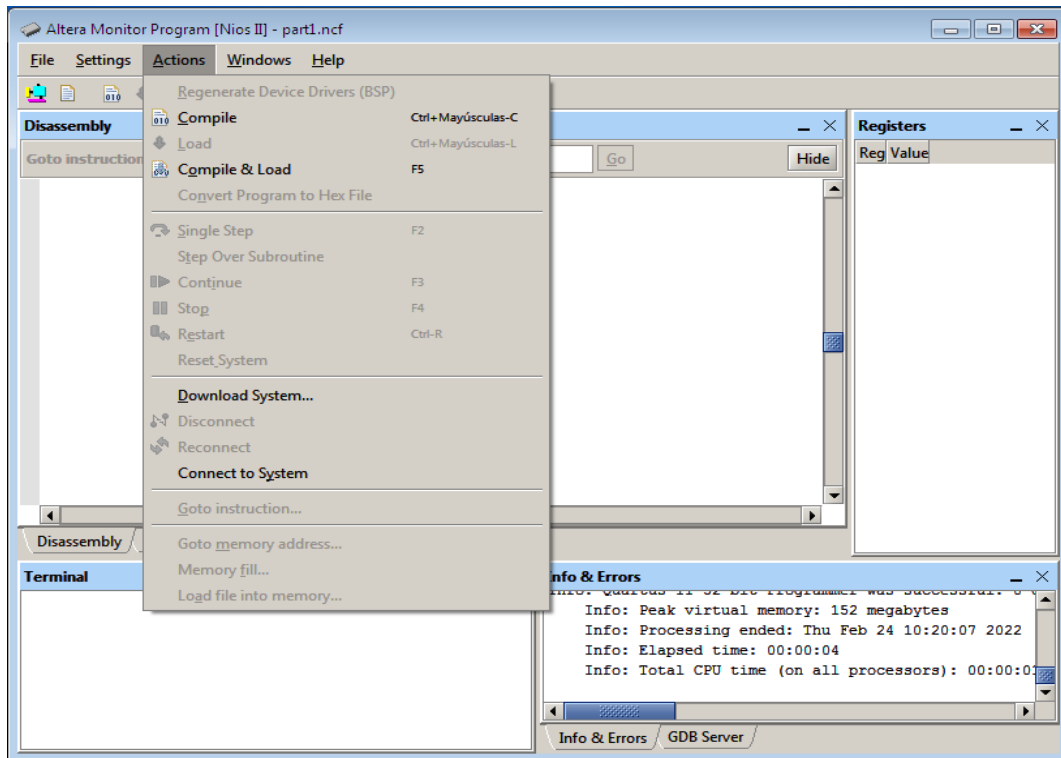
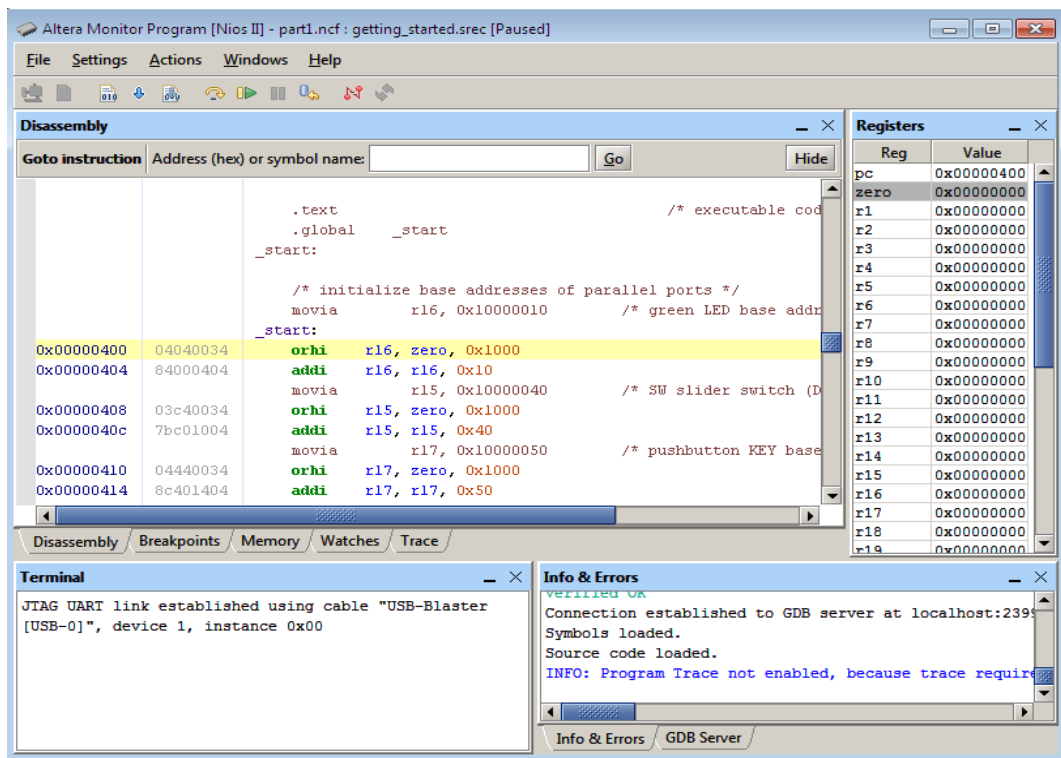

Figure 8: Specify an action in the monitor window.
Figure 9: The monitor window showing the loaded sample program. Instruction set architecture registers window is on the right side.
9. Having downloaded the DE0-Nano Basic Computer into the FPGA chip on the DE0-Nano board, we can now load and run programs on this computer. In the main monitor window, shown in Figure 8, select Actions > Compile & Load to load the selected sample program into the FPGA chip. Figure 9 shows the monitor window after the sample program has been loaded.